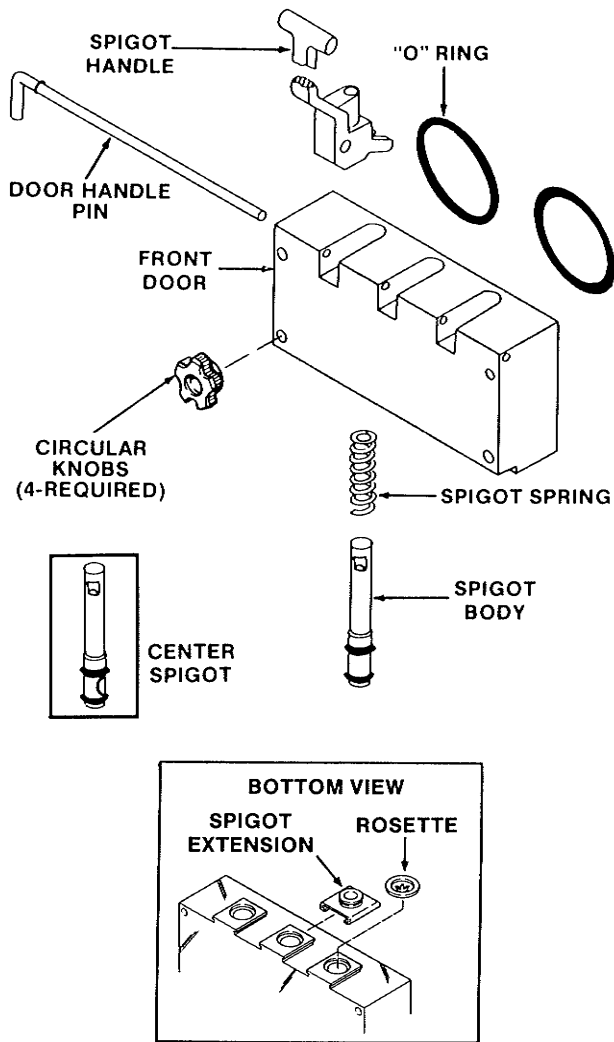

Figure 28. Exploded View of Front Door
- H. Install the spigot bodies with "O" Rings and spring into the front door from the bottom (Fig. 28). Push straight up until the spigots are in place. Place the spigot handle fork into the notches near the top of the spigot and insert door handle pin. Install spigot extension adaptor or rosette as desired.